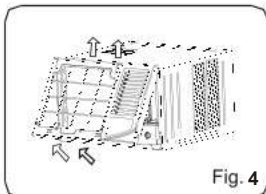

Fig. 4
- Grasp the left corner in the frame's underside, then loosen the frame (See Fig.4).